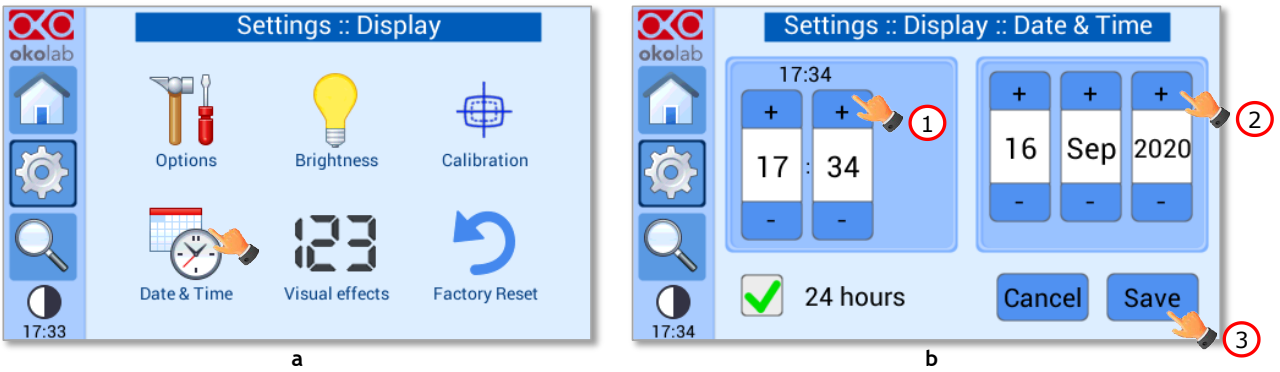

Figure 86. Settings – Display - Date and Time (a – b).
1. Press the *Date & Time* icon  (see Figure 86 a).
2. Set the values by using the +/- icons (see pointer 1 and 2 in Figure 86 b).
3. Click on *Save* to confirm (see pointer 3 in Figure 86 b) or *Cancel* to undo.